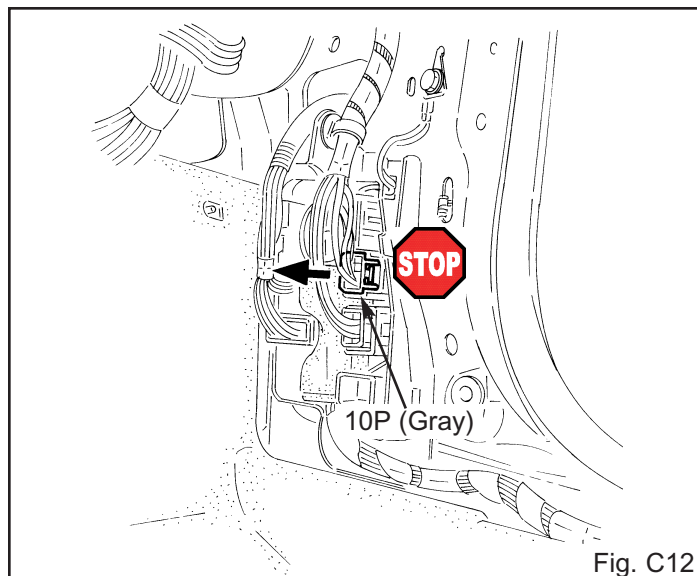

Fig. C12
15. Locate and disconnect the gray 10P connector from the passenger side cowl area. (Fig. C12)